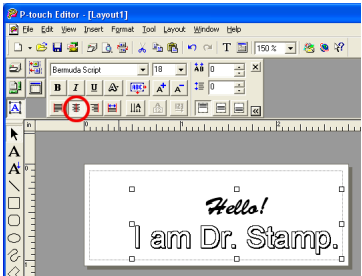

figure 11
- 3 Click the Center Alignment button (see figure 11).